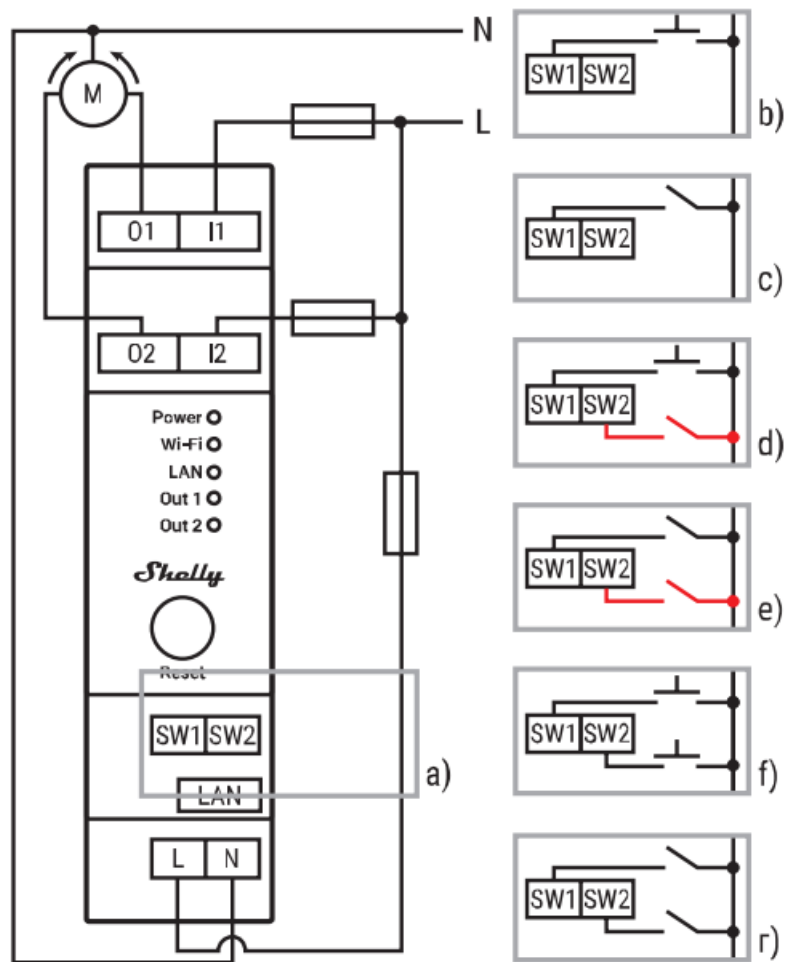

Fig. 2
RECOMMENDATION: For inductive appliances that cause voltage spikes during switching on/off, such as electrical motors, fans, vacuum cleaners, and similar ones, RC snubber (0.1pF / 100 Ω / 1/2 W / 600 VAC) should be connected parallel to the appliance. The RC snubber can be purchased at <https://shop.shelly.cloud/rc-snubber-wifi-smart-home-automation>. As a cover controller Shelly® Pro2PM can work in 3 modes: detached, single input, or dual input. In detached mode, the Device can be controlled through its Web Interface and the App only. Even if buttons or switches are connected to the Device, they will not be allowed to control the motor rotation in detached mode, but they can be used for URL actions. If you want to use the Device in detached mode connect the device as shown in Fig. 2 a).
Connect the N terminal to the Neutral cable and the L terminal to the Device power supply circuit breaker. Connect the common motor terminal/cable to the Neutral cable. Connect motor direction terminals/cables to the 01 and 02 terminals*. Connect the 11 terminals to one of the circuit breakers and the 12 terminals to the other circuit breaker. If you want to use the Device in single input mode connect the device as shown in Fig. 2 b) for a
button input or Fig. 2 c) for switch input. Connect the N terminal to the Neutral cable and the L terminal to the Device power supply circuit breaker. Connect the common motor terminal/cable to the Neutral cable. Connect motor direction terminals/cables to the 01 and 02 terminals*.
To utilize it, connect the device as shown in Fig. 2 d) for a button input or Fig. 2 e) for switch input. Connect the N terminal to the Neutral cable and the L terminal to the Device power supply circuit breaker. Connect the common motor terminal/cable to the Neutral cable. Connect motor direction terminals/cables to the 01 and 02 terminals*. Connect the 11 terminals to one of the circuit breakers and the 12 terminals to the other circuit breaker. Connect the controlling button or switch to the S1 terminal and the Device power supply circuit breaker. Connect the safety switch to the S2 terminal and the Device power supply circuit breaker. The safety switch can be configured to:
- Stop and immediately reverse the movement until the end position is reached. This option requires reverse movement to be allowed in the Device settings. The safety switch can also be configured to stop the movement in only one of the directions or in both. If you want to use the Device in dual input mode, connect the device as shown in Fig. 2 f) for button inputs or Fig. 2 g) for switch inputs. Connect the N terminal to the Neutral cable and the L terminal to the Device power supply circuit breaker. Connect the common motor terminal/cable to the Neutral cable. Connect motor direction terminals/cables to the 01 and 02 terminals*.